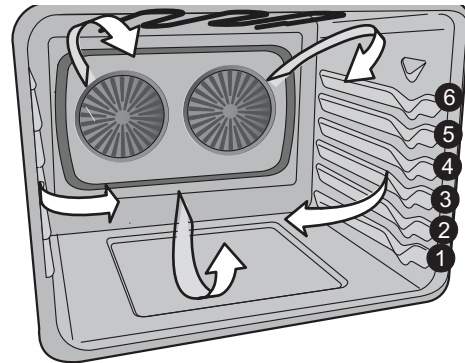

Figure 8: Use rack position 3 for No Preheat baking
- Always place the food in the center of the oven on rack position 3 (Figure 8). No Preheat is designed for baking on a single oven rack.